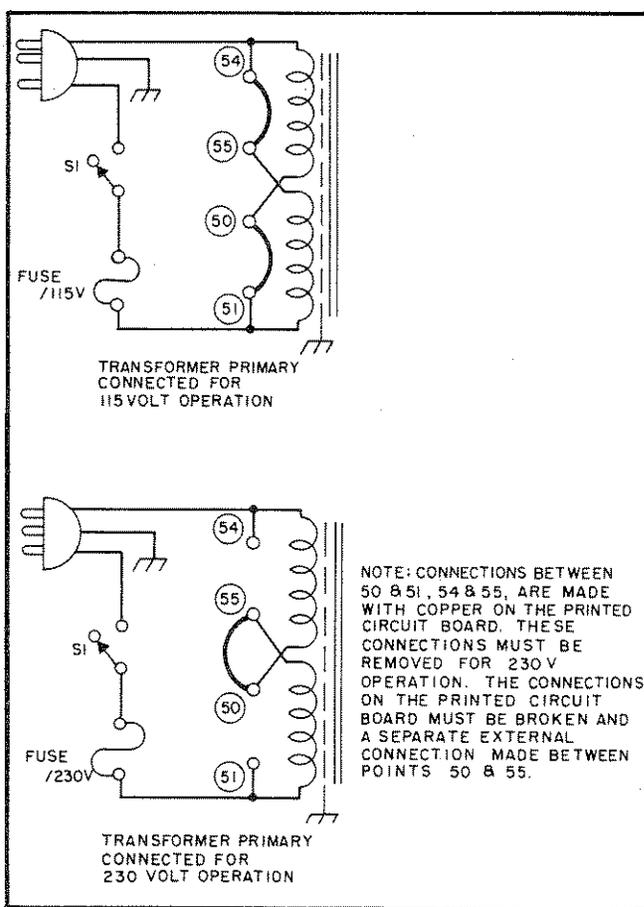

Figure 2-1. Primary Connections
### 2-15 CONNECTIONS FOR 230 VOLT OPERATION (Figure 2-1)
- b. Break the copper between 54 and 55 and also between 50 and 51 on the printed circuit board. These are shown in Figure 2-1, and are labeled on copper side of printed circuit board.